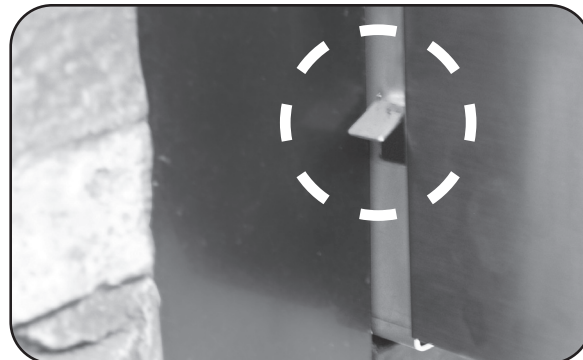
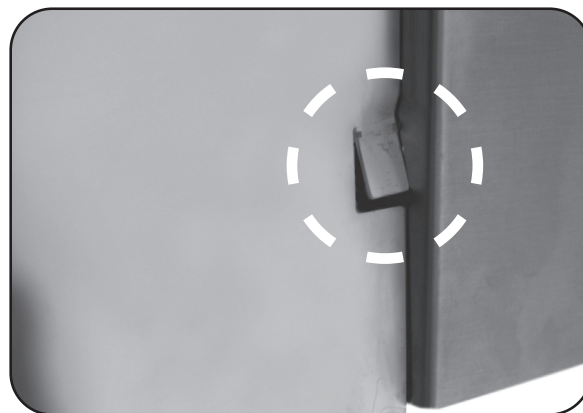

Fig. 19-3 Tab may interfere when sliding in unit
Fig. 19-4 Tab slightly bent in for clearance
**Note:** Each side of the unit has a tab just behind the control panel. These tabs prevent the control panel from moving inward. If the tabs interfere with the unit sliding in (see Fig. 19-3), use pliers to bend them inward so that they clear the enclosure sides. Leave the tabs slightly out to ensure they still keep the control panel from moving inward (see Fig. 19-4).